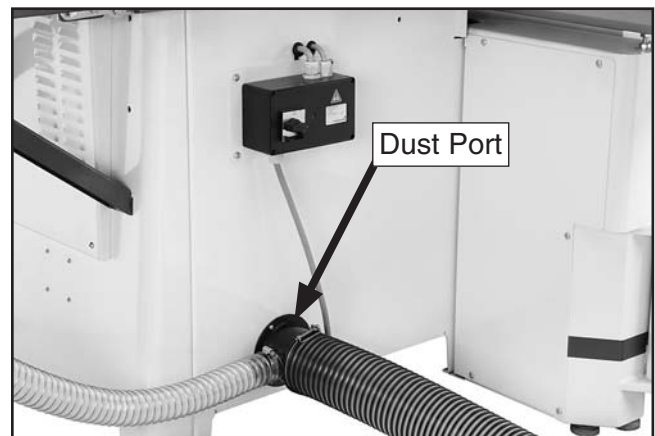

Figure 36. 4" dust port location.
- 32.** Secure the 2½" and a 4" dust hose to the dust port located under the saw table (**Figure 36**).